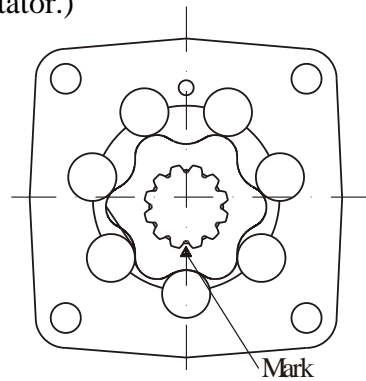

Fig.8
8. Orientate the Roll-Gerotor set acc.to Fig.8 and assemble the rotor splines into the cardan shaft splines. (If necessary, turn the shaft to one or another direction for keeping symmetry of rotor towards stator.)
10. Mark the rotor at the point where the tip of a spline tooth is opposite to the bottom of a tooth in the external rotor teeth as shown on Fig.8 and 9.